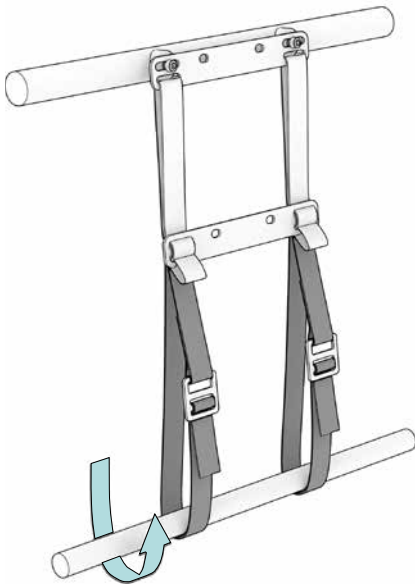

Fig. 10
The lashing straps (10) have already been looped in at the top connector plate (7) and the central connector plate (8). They are looped around the transport box bottom rail (Fig. 10).